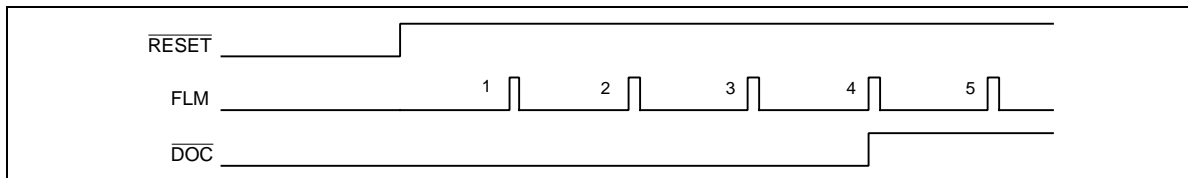

Figure 4 Automatic Display-off Control Function
- 2. Auto Display-off Control:** This functions prevents incorrect display after reset release. The display is turned off four frames following after reset release. In addition, the display off control signal shown in Figure 4 is output by pin $\overline{\text{DOC}}$. This pin is connected to pin $\overline{\text{DISPOFF}}$ of the HD66522.